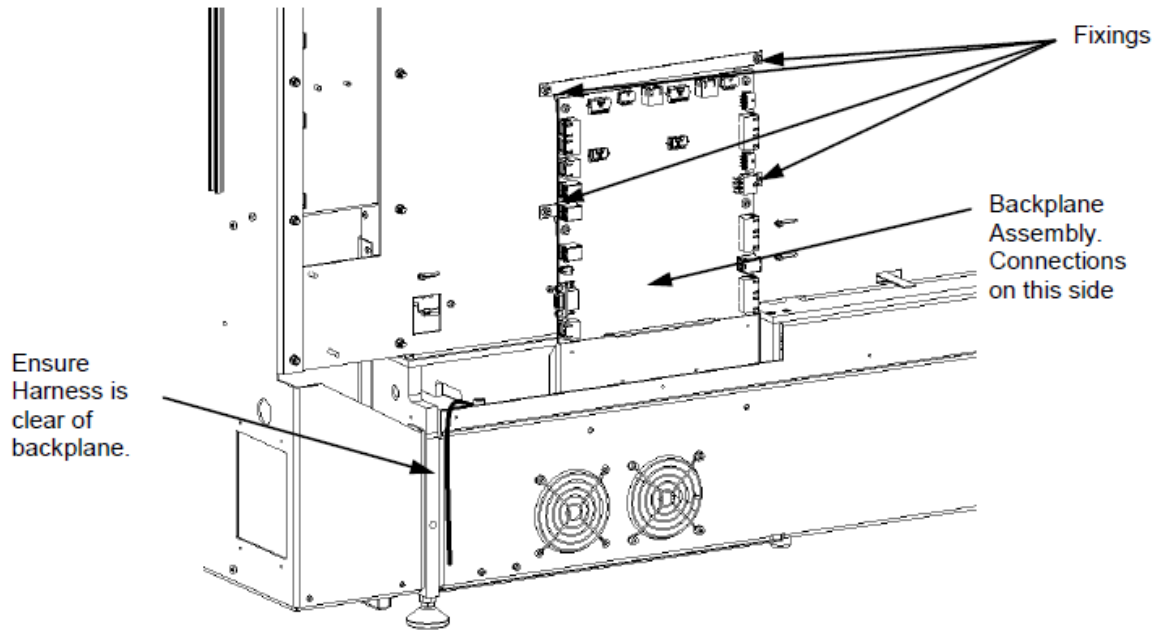

Figure B-2: Backplane Assembly Fixings
2. Remove the Backplane Assembly by unscrewing the four nylon nuts that attach the assembly to the back panel (Figure B-2) and disconnecting all cables.